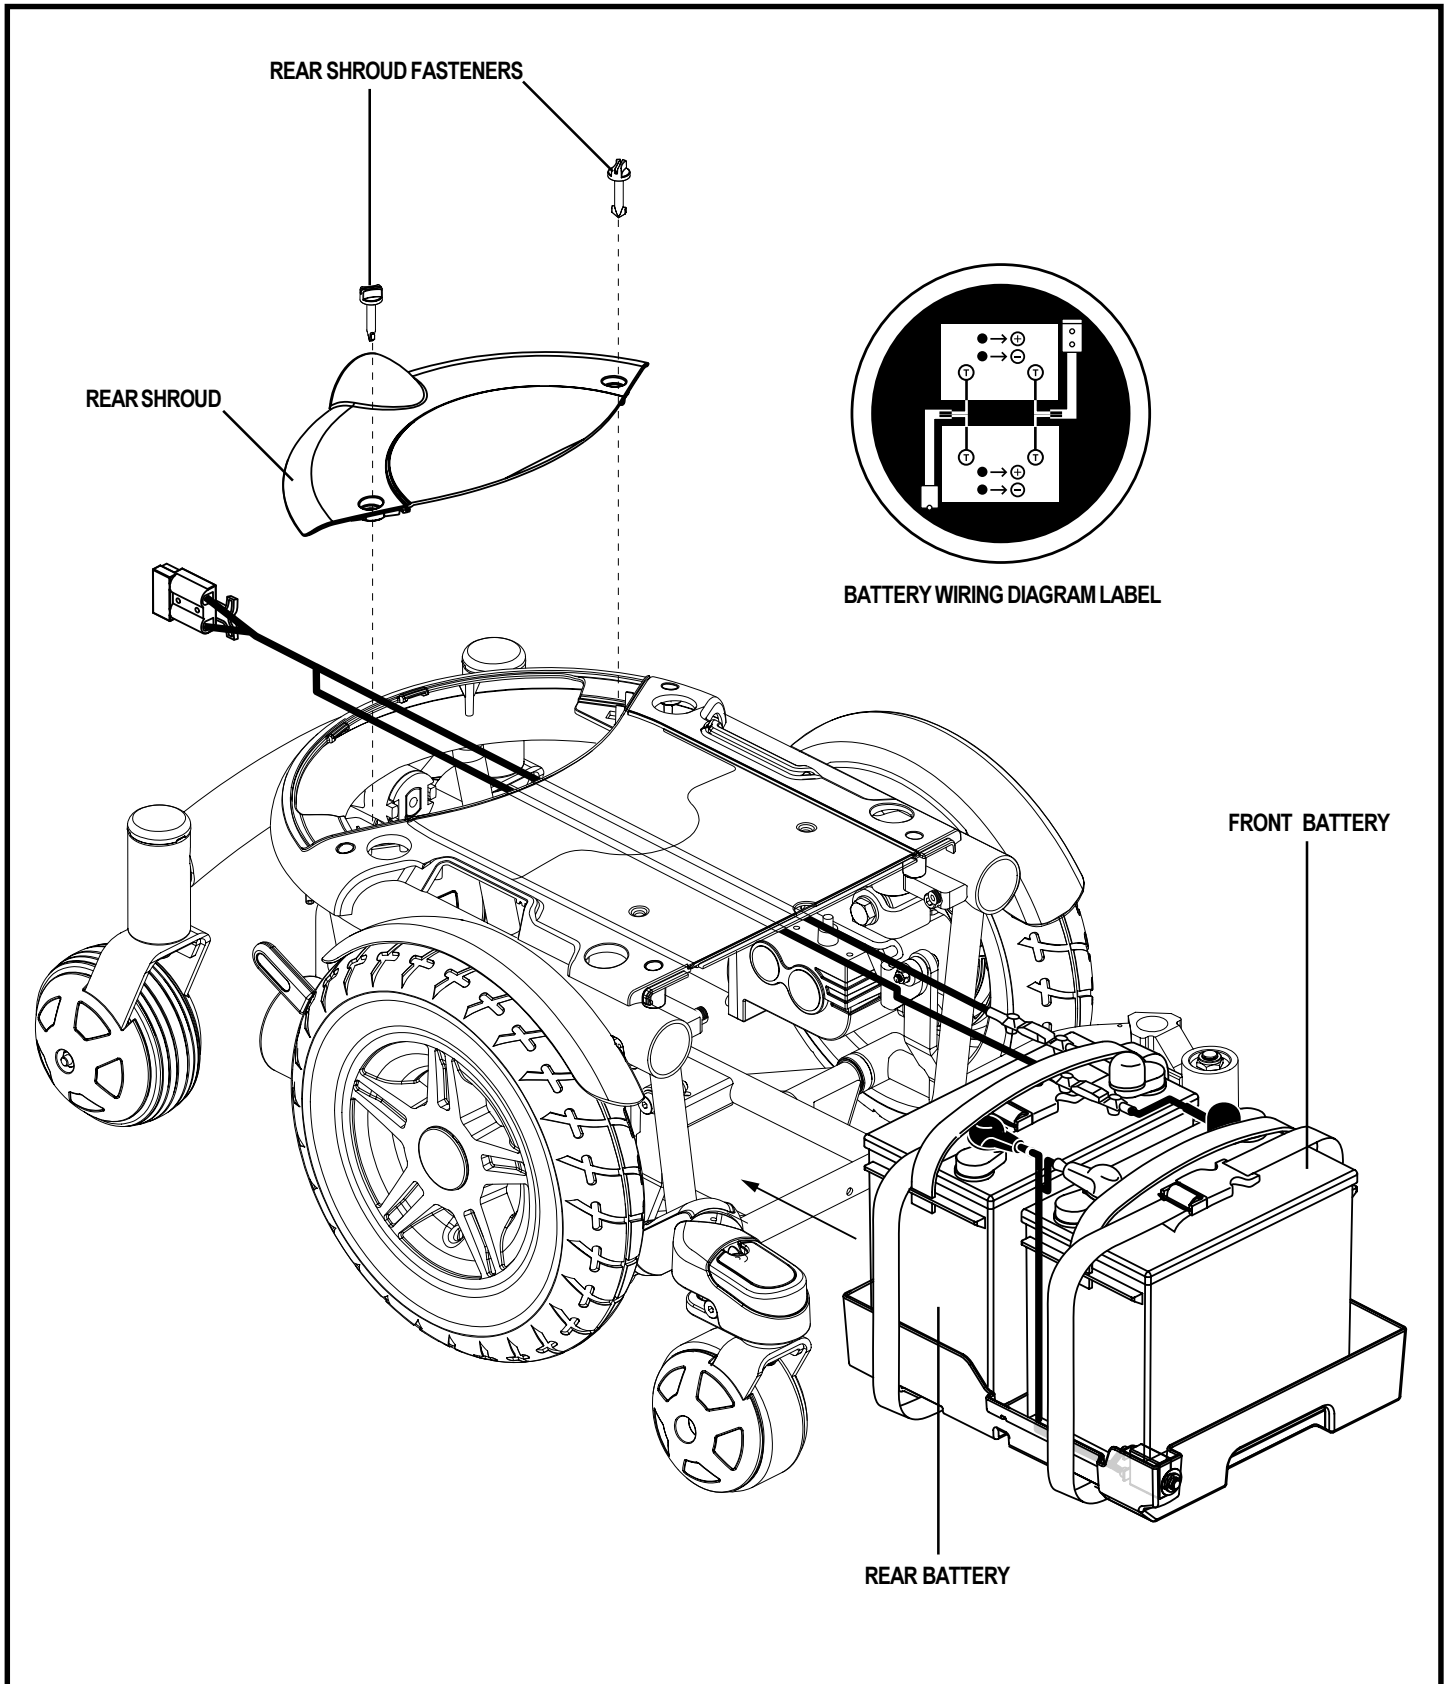

Figure 26. Battery Installation
3. Turn the rear shroud fasteners one-quarter turn in any direction. See figure 26.